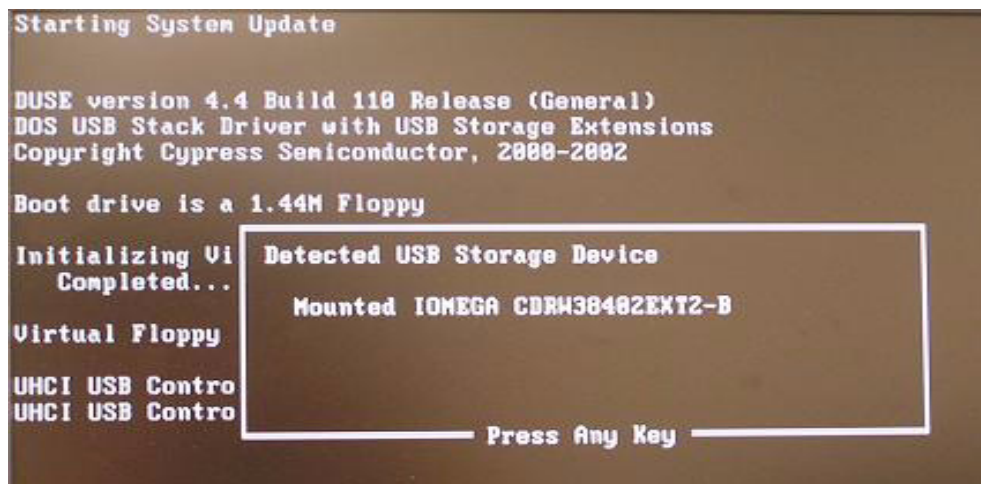

Figure 3-19 System Update
- 4.) Turn on the system. system will detect the CDRW automatically as shown in Figure 3-19 on page 3-28 .
- 6.) Press any key to continue when below message display as shown in Figure 3-19 on page 3-28.